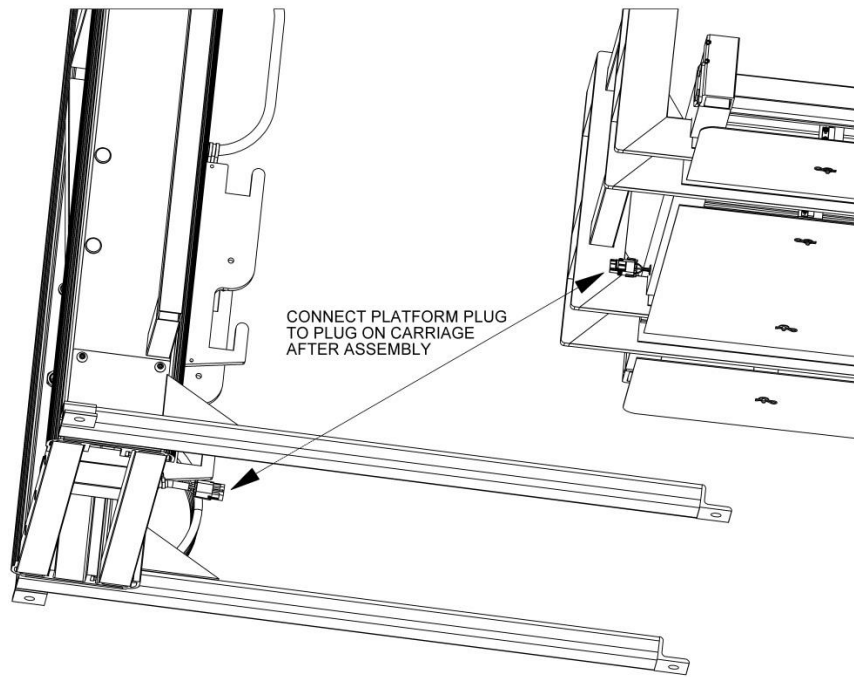

FIG. 4.4
6. Locate the wiring connector protruding from the back of the platform and attach to the corresponding connector on carriage (FIG. 4.4).